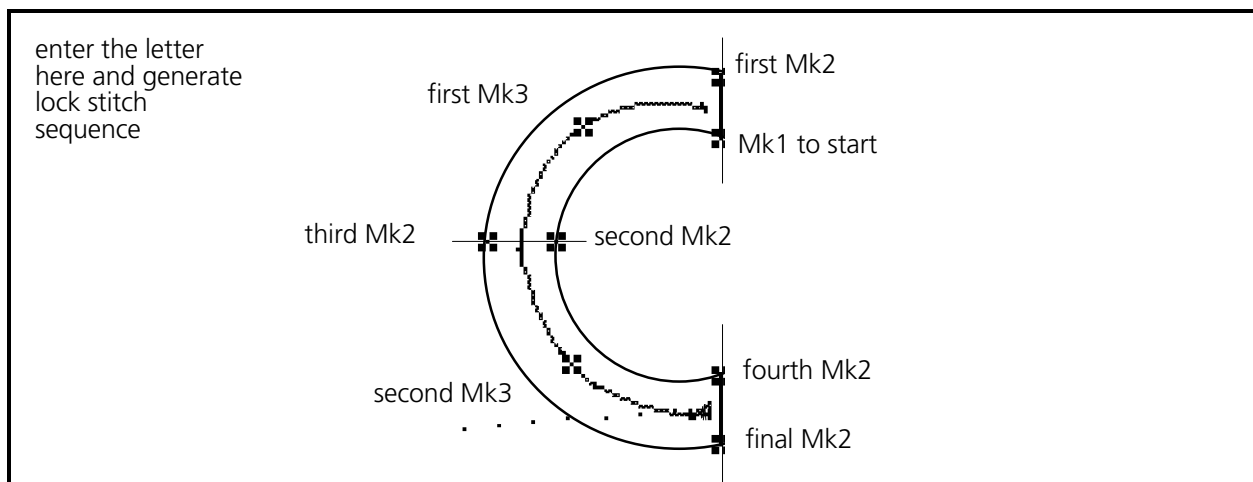

Figure 6-41
1. Go to the start of the inside line of the top of the letter **c** and enter the Mk1 to start (see Figure 6-41).
2. Enter the first Mk2 at the start of the outside line of the top of the letter (see Figure 6-41).
3. We plotted the letter into two arc segments since the circumference of the letter **c** is more than 180 degrees rotation. For uniformity the segments are equal. Enter the first Mk3 (for the first column segment) in the middle of the first segment, half way from the top end to the center of the letter (see Figure 6-41).
4. Enter the second Mk2 to define the end of the inside line of the column at the midpoint of the letter (see Figure 6-41).
5. Enter the third Mk2 to define the end of the outside line of the column at the midpoint of the letter (see Figure 6-41).
6. Enter the second Mk3 (for the second column segment) in the middle of the segment, half way from the center of the letter to the bottom end of the letter **c** (see Figure 6-41).
8. Finish the column with a Mk2 at the end of the outside line of the arc (see Figure 6-41).